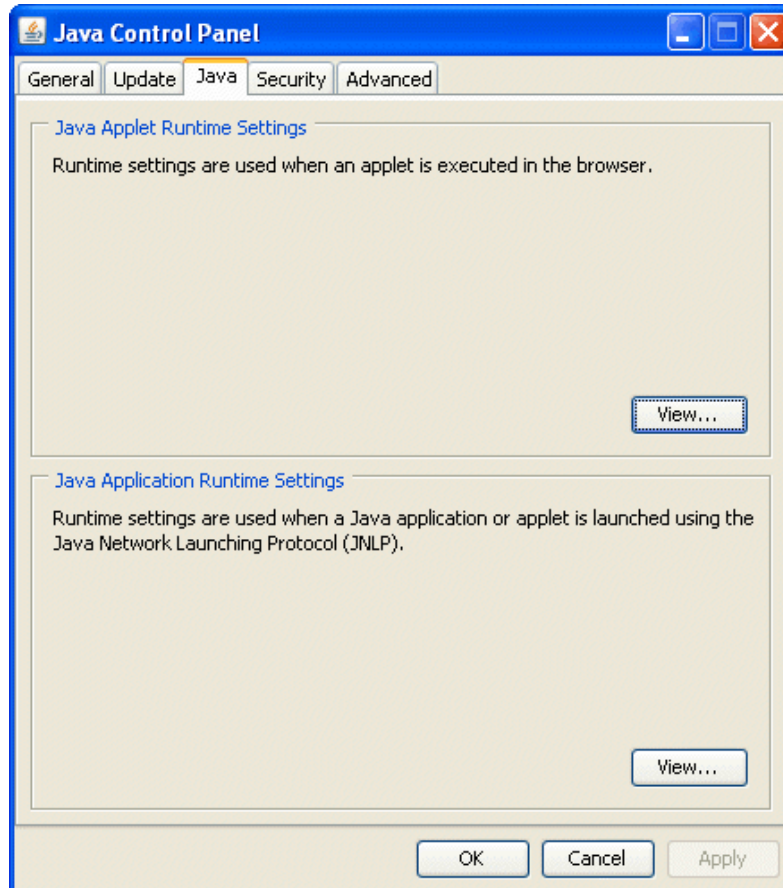

Figure 7-1: Java Tab
3. Click the **Java** tab. The Java tab is displayed as shown in Figure 7-1.